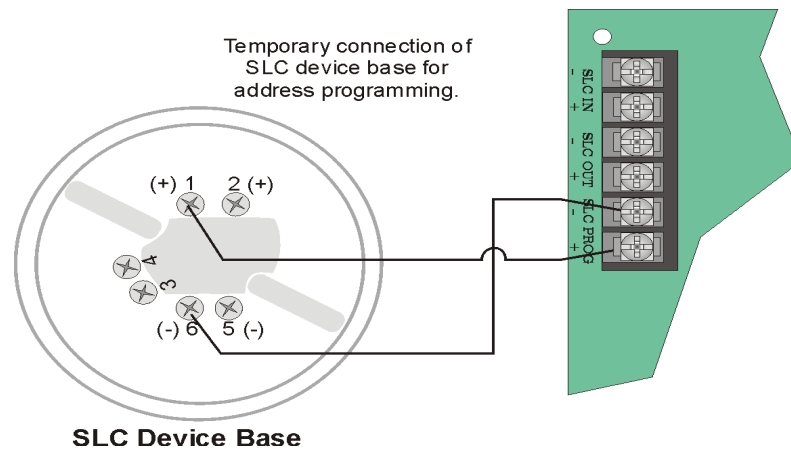

Figure 5-5 Temporary Connection of Detector Base to Panel for Addressing
1. Connect a detector base temporarily to the programming terminals as shown in Figure 5-5. (You can use the same base for each detector.)